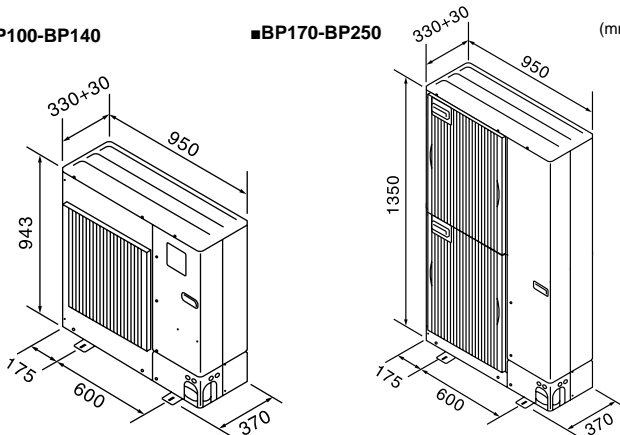

Fig. 2-2
2.3. Outline dimensions(Outdoor unit) (Fig.2-2)